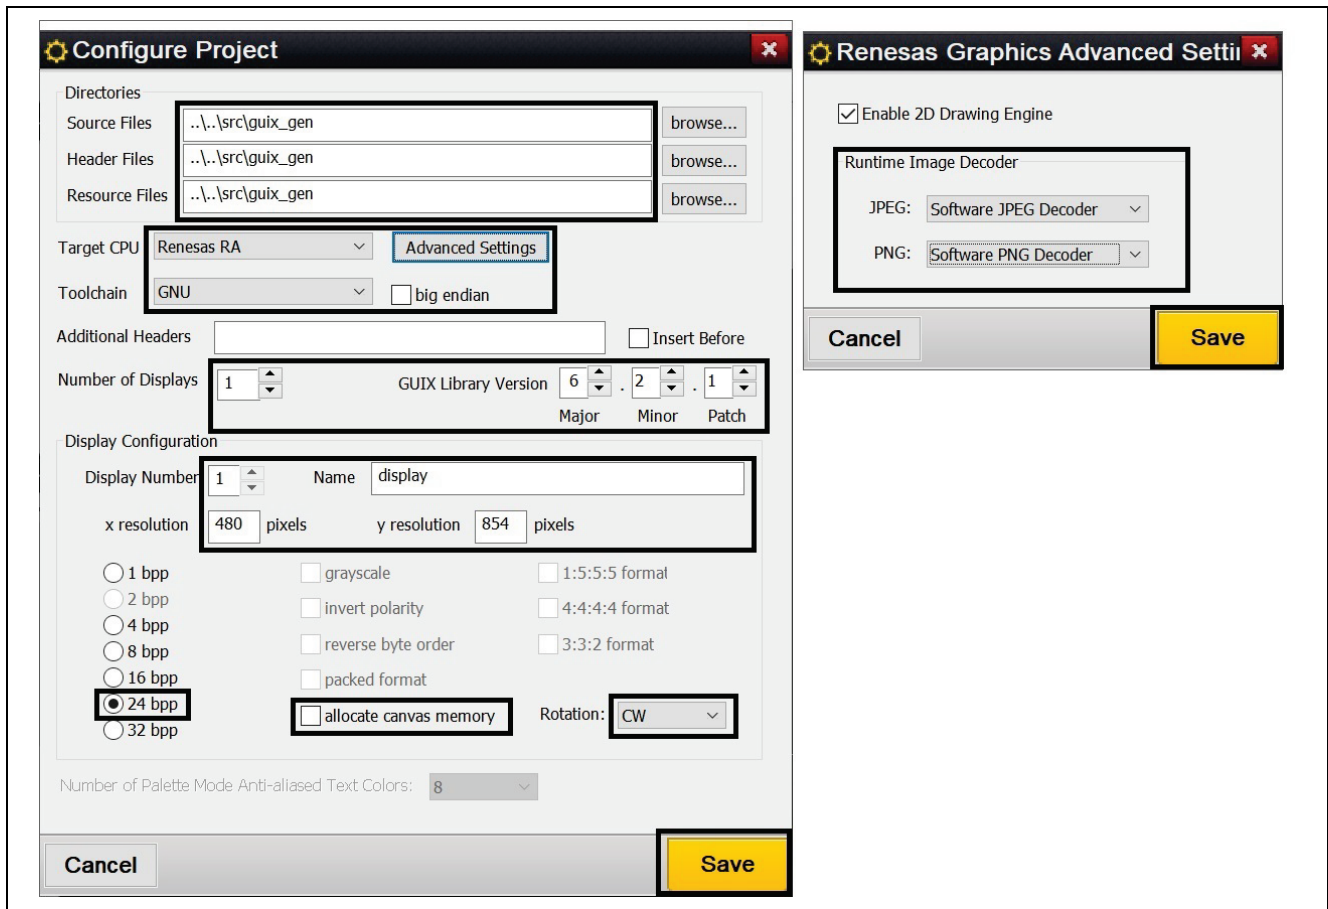

Figure 42. Configuration New Project “Hello World” with Advanced Settings
3. A new **Configure Project** window will pop up and you need to set all the options as shown in **Figure 42**. Take care to also set the Advanced Settings. Finally, when your project settings match those reflected in the following image, click **Save**.